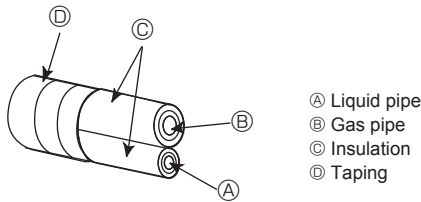
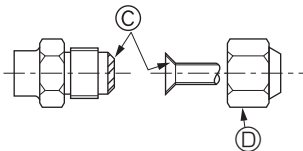

Fig. 4-4
Fig. 4-5
4.4. Connecting pipes (Fig. 4-4) (Fig. 4-5)
[Fig. 4-5]
(A) (Fig. 4-5)